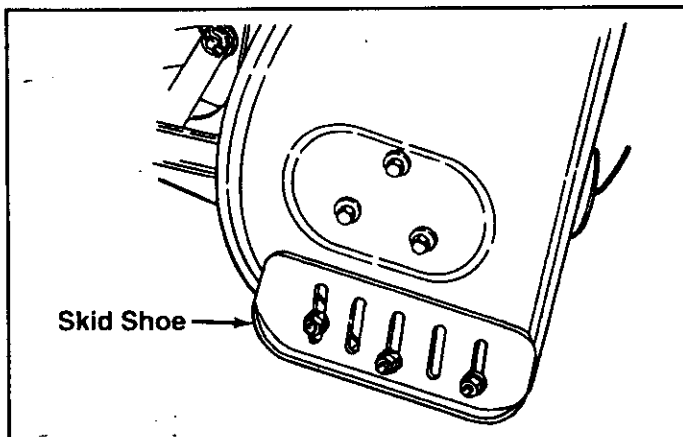

FIGURE 28
## SCRAPER PLATE AND SKID SHOES (Refer to figures 28 and 29 on page 17)
- Raise the snow thrower off the ground and place a block under each end of the scraper plate. Loosen the six hex nuts securing the skid shoes to the housing. Adjust the skid shoes up or down to the desired position and tighten the nuts securely. Adjust both skid shoes to the same height to keep the housing and the scraper plate level. See figure 28.